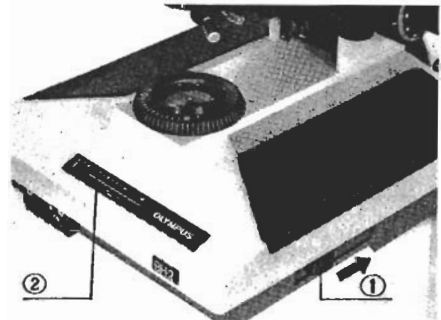

Fig. 6
As you push the control lever ① in the direction of the arrow in order to obtain increasing intensity (Fig. 6), the LED readout ② will display the lamp voltage.